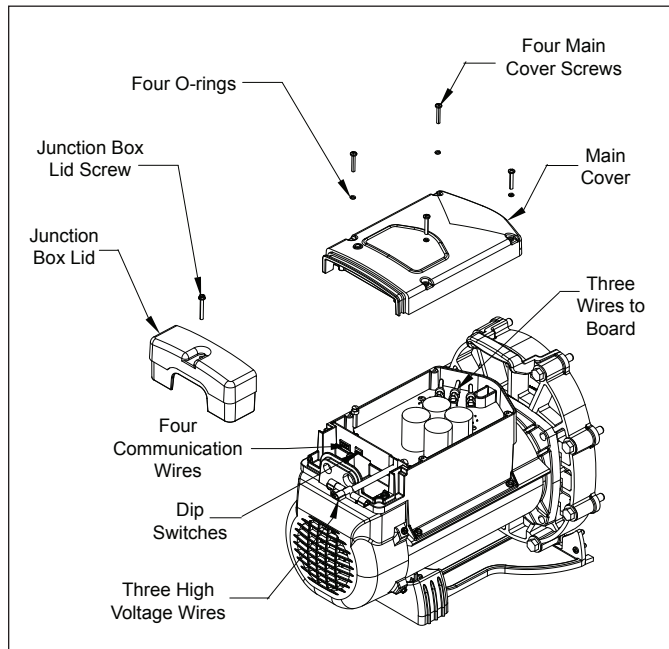

Figure 14. Remove Main Cover for Variable Speed Drive Electronics Unit
2. Remove the junction box lid and disconnect the three (3) high voltage wires and the four (4) communication wires.
3. Remove the four (4) screws and o-rings on the main cover and remove the main cover. See Figure 14.
8. Replace the main cover using the four (4) screws that secure it in place. See Figure 14.
9. Reconnect the three (3) high voltage wires and the four (4) communication wires.
3. Remove the four (4) screws on the main cover and remove the main cover. See Figure 14.